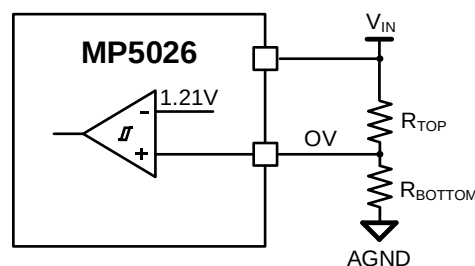

Figure 9: OV Connection
The MP5026 provides internal voltage sensing to monitor  $V_{IN}$ . Connect a resistor divider between the  $V_{IN}$  and AGND pins to set the input over-voltage (OV) threshold ( $V_{OV}$ ) (see Figure 9).